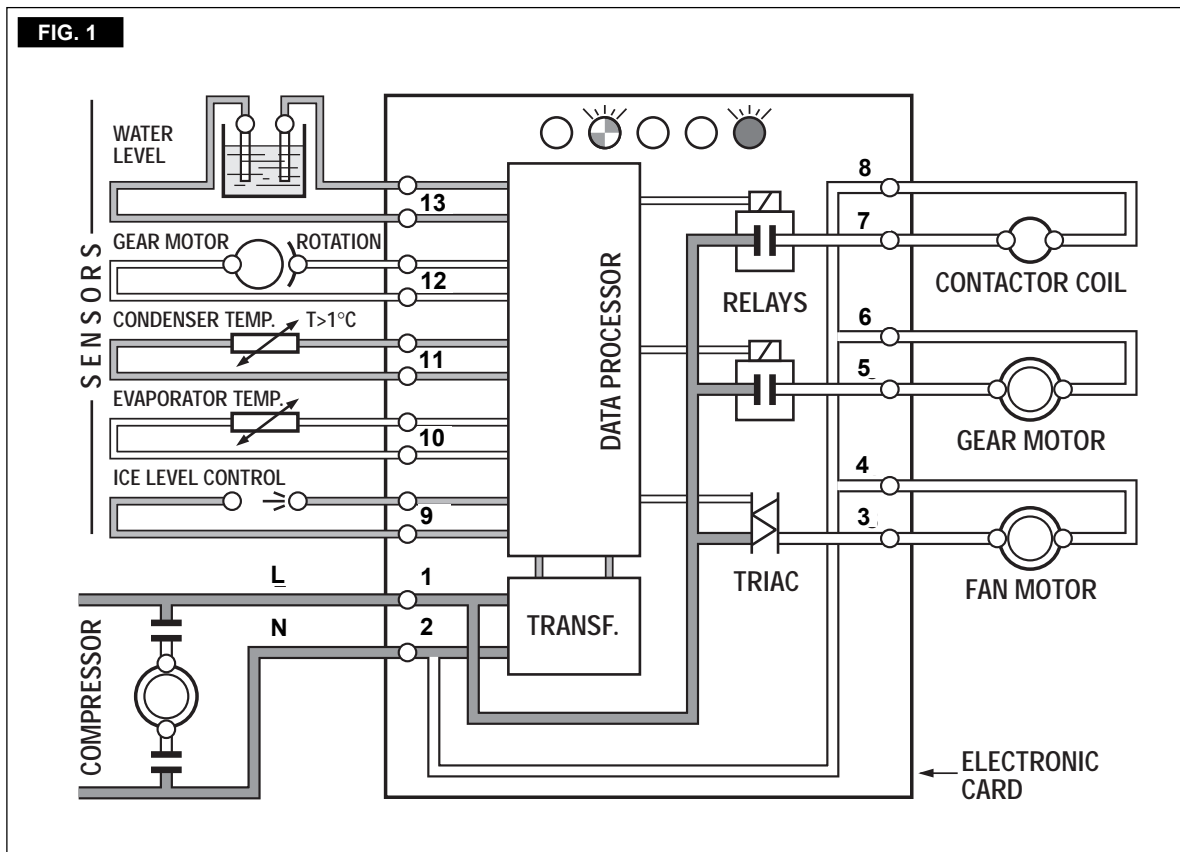

FIG. 2
**FAN MOTOR/S** (if unit is an air cooled version) kept under control by the condenser temperature sensor which has its probe within the condenser fins (Fig.2).